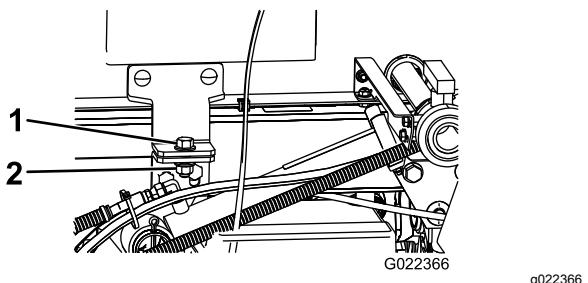

Figure 77
4. Remove the safety bolts from the front of the skid (Figure 77).